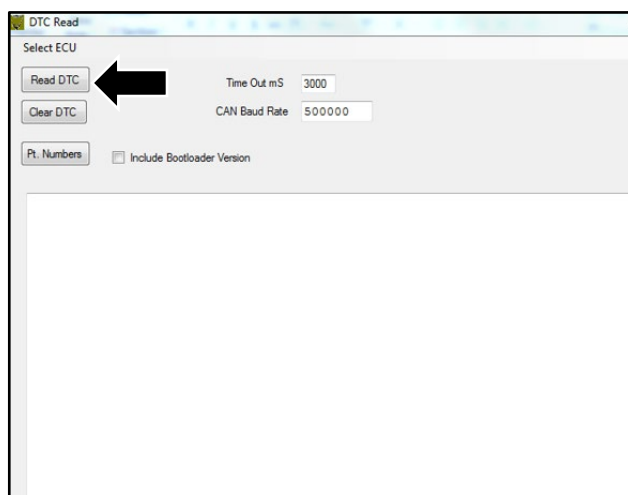

Figure 7
11. In the "DTC Read" window, click the Read DTC button, (refer to Figure 7).